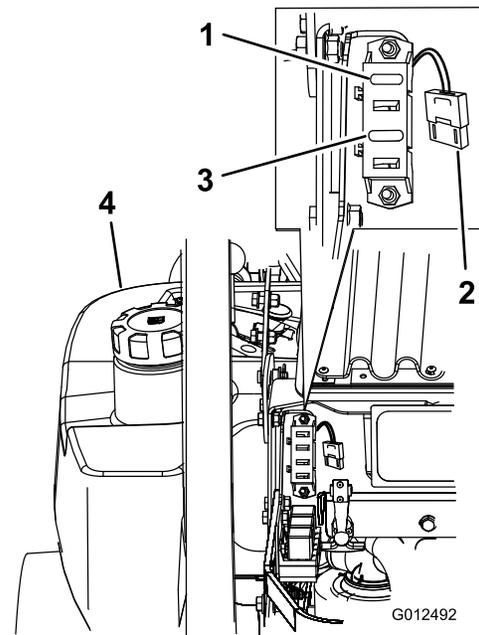

Figure 76
1. Unlatch the engine hood and raise the engine hood to gain access to fuse holder (Figure 76).
3. Install a new fuse (Figure 76).